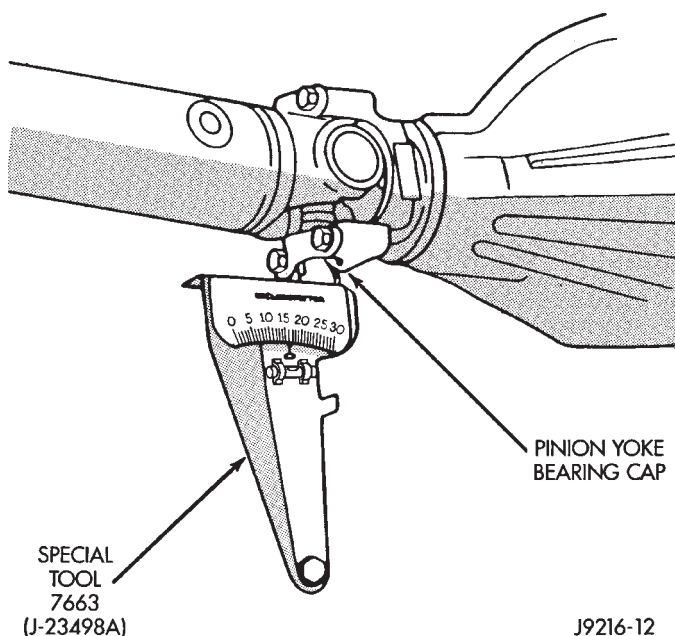

Fig. 10 Rear (Input) Angle Measurement (B)
(4) Subtract smaller figure from larger (C minus A) to obtain transmission output operating angle.
(5) Rotate propeller shaft 90 degrees and place Inclinator on pinion yoke bearing cap parallel to the shaft (Fig. 10). Center bubble in sight glass and record measurement.